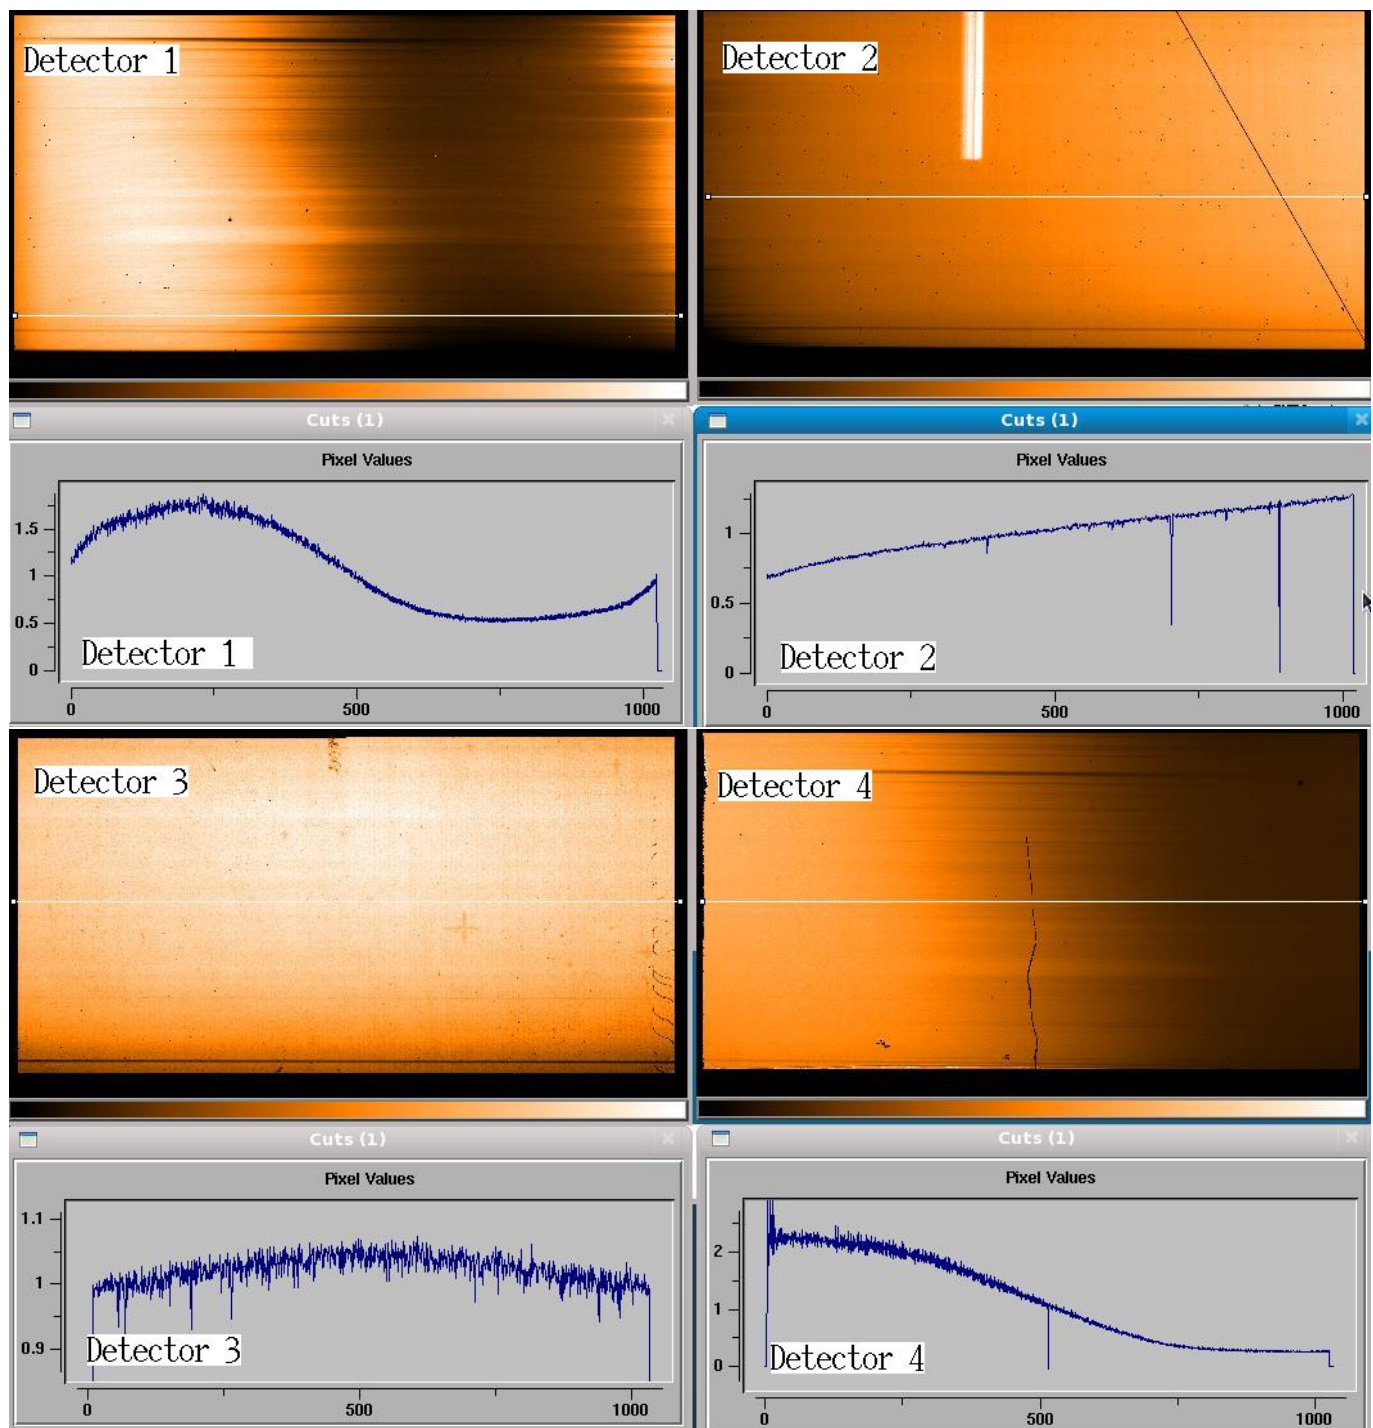

Figure 32: Master flatfield at 1087.3-nm. Detectors 1 and 4 cannot be well flatfielded as they are affected by (necessary) vignetting by the intermediate slit.
Figure 32 shows the master flatfield produced by the ESO pipeline. In this case detectors 1 and 4 clearly are not near to unity, so the flatfielding in these chips will be very poor. One looks at the Quality Control (QC) parameters using the following dfits command